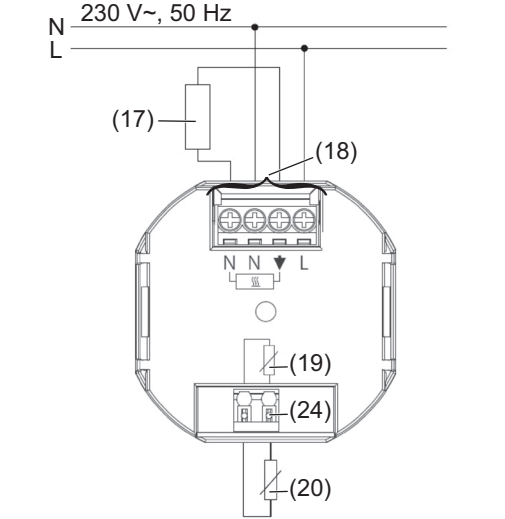

Fig. 4: Connection diagram
- Connect the controller according to the connection diagram (Fig. 4).
- If necessary, connect an external remote sensor (20) (see “Connecting the external remote senso”).
- Connect the remote sensor according to the connection diagram (Fig. 4, item (20)).
- When inserting and removing the connecting line using an appropriate tool, press the release button (Fig. 4/7, item (24)).